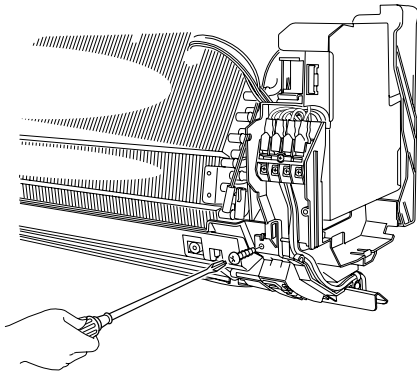

Fig. 23
(6) Remove a screw on the electrical box. (Fig.23)